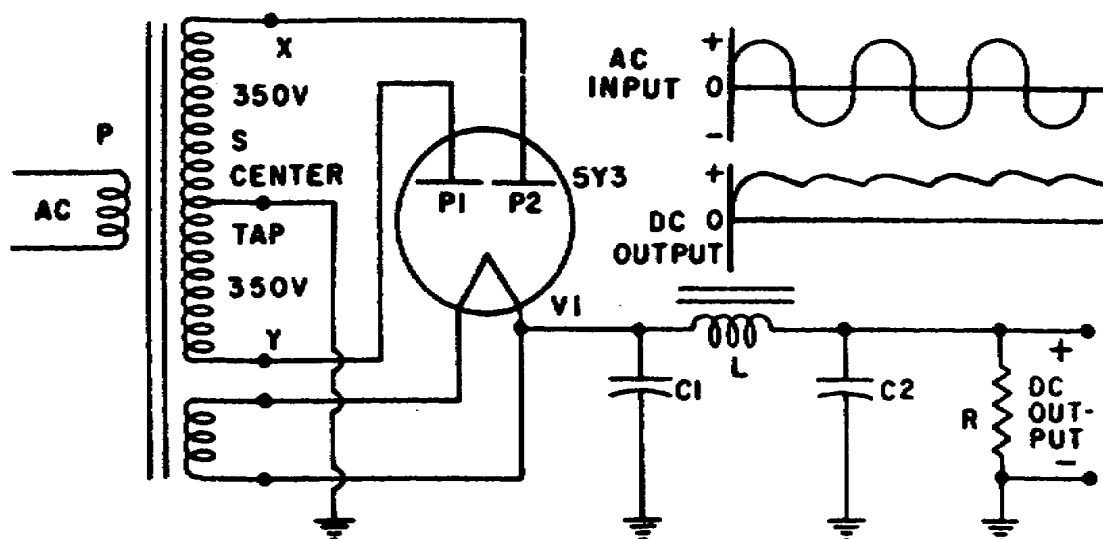

Figure 92. Full-wave rectifier.
16. In a full-wave rectifier circuit, two diodes may be used. However, in many applications, the two diodes are included in one envelope and the tube is referred to as a duo-diode. A typical example of a full-wave rectifier circuit is shown in figure 92. In this circuit a duo-diode is used, and the transformer's secondary winding has a center tap. Notice that the center tap current is turned to ground and then through R and inductor L to the cathode (filament) of V1. The voltage appearing across X and Y is 700 volts a.c. The center tap is at zero potential with 350 volts on each side.
18. During the other half-cycle, P₁, will be negative and nonconducting while P₂ will be positive and conducting. Therefore, since the two plates take turns in their operation, one plate is always conducting. Current flows through the load resistor in the same direction during both halves of the cycle, which is called full-wave rectification. The circuit shown in figure 92 is the basis for all a.c. operated power supplies that furnish d.c. voltages for electronic equipment. Notice that the heater voltage for the duo-diode is taken from a special secondary winding on the transformer.